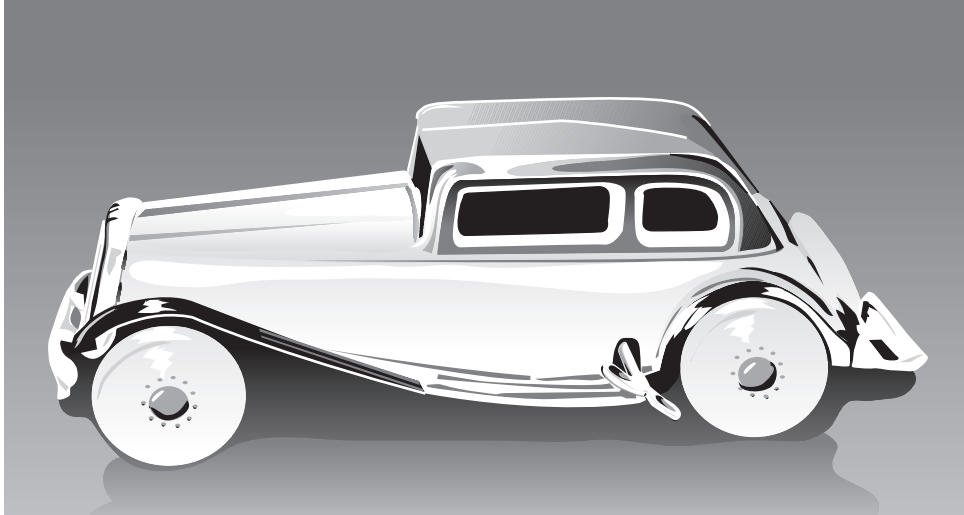

Fig. 9
- 11 Fig. 9 shows a toy car made in the 1930s. Pieces of tinplate were pressed and fabricated into the car. Detail was added to the surface of the tinplate using a lead based paint.
- (c) Identify and explain **three** safety hazards linked with tinplate toys of the type shown in Fig. 9. [9]